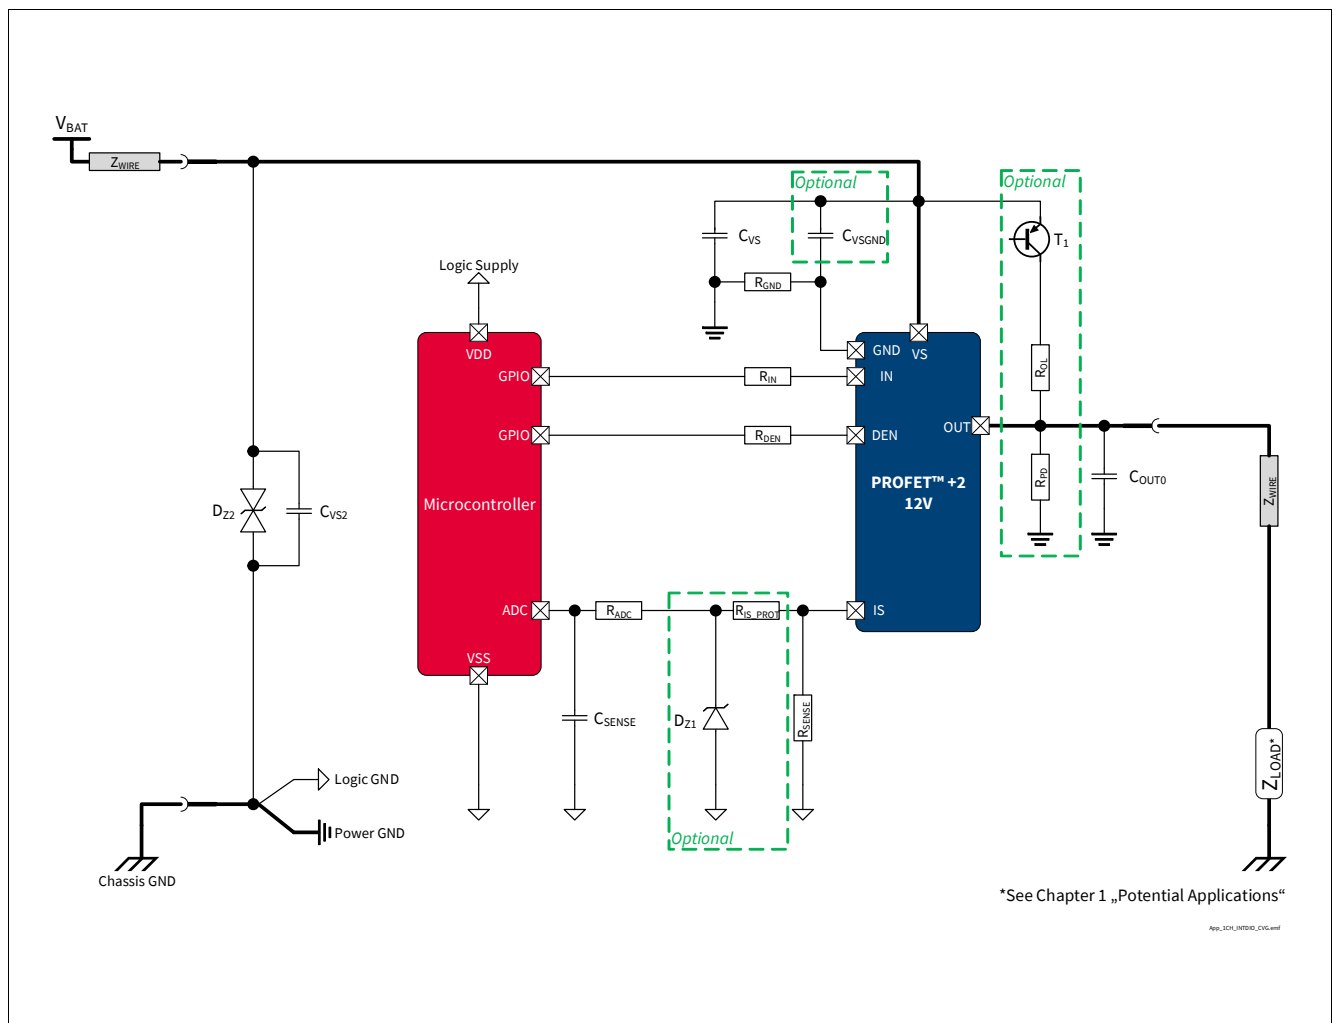

Figure 42 **BTS7008-1EPA Application Diagram**
1.02 , 2019-10-15	P_8.7.1.1, P_8.7.1.7, P_8.7.1.8 updated (Note or Test Condition: added link to Figure 25) P_7.5.1.4, P_7.5.1.5 updated (added in Note or Test Condition: DEN = “low”) P_7.5.1.12 updated (deleted unnecessary space in Symbol: $dV_{OUT} / dt \rightarrow dV_{OUT} / dt$) P_9.7.1.6 updated (Min./Typ./Max: -50%/5500/+50% → -35.0%/5400/+35.0%) P_9.7.1.9 updated (Min./Typ./Max: -42%/5500/+42% → -30.0%/ 5400/+30.0%) P_9.7.1.12 updated (Min./Typ./Max.: -40%/5500/+40% → -29.5%/5400/+29.5%) P_9.7.1.15 updated (Min./Typ./Max.: -25%/5500/+25% → -13.5%/5400/+13.5%) P_9.7.1.18 updated (Min./Typ./Max.: -8%/5500/+8% → -5.8%/5400/+5.8%) P_9.7.1.20 updated (Min./Typ./Max.: -6%/5500/+6% → -4.0%/ 5450/+4.0%) P_9.7.1.22 updated (Min./Typ./Max.: -5%/5500/+5% → -3.9%/5450/+3.9%) P_4.2.1.6 updated (Max.: 16 mJ → 20 mJ) Figure 1, Figure 42 updated Chapter 1 updated (or LED equivalent → or equivalent electronic loads (e.g. LED modules)) P_4.3.0.7 added Table 23 updated Chapter 5.1 updated (added: see Chapter 10 for the complete application setup overview)